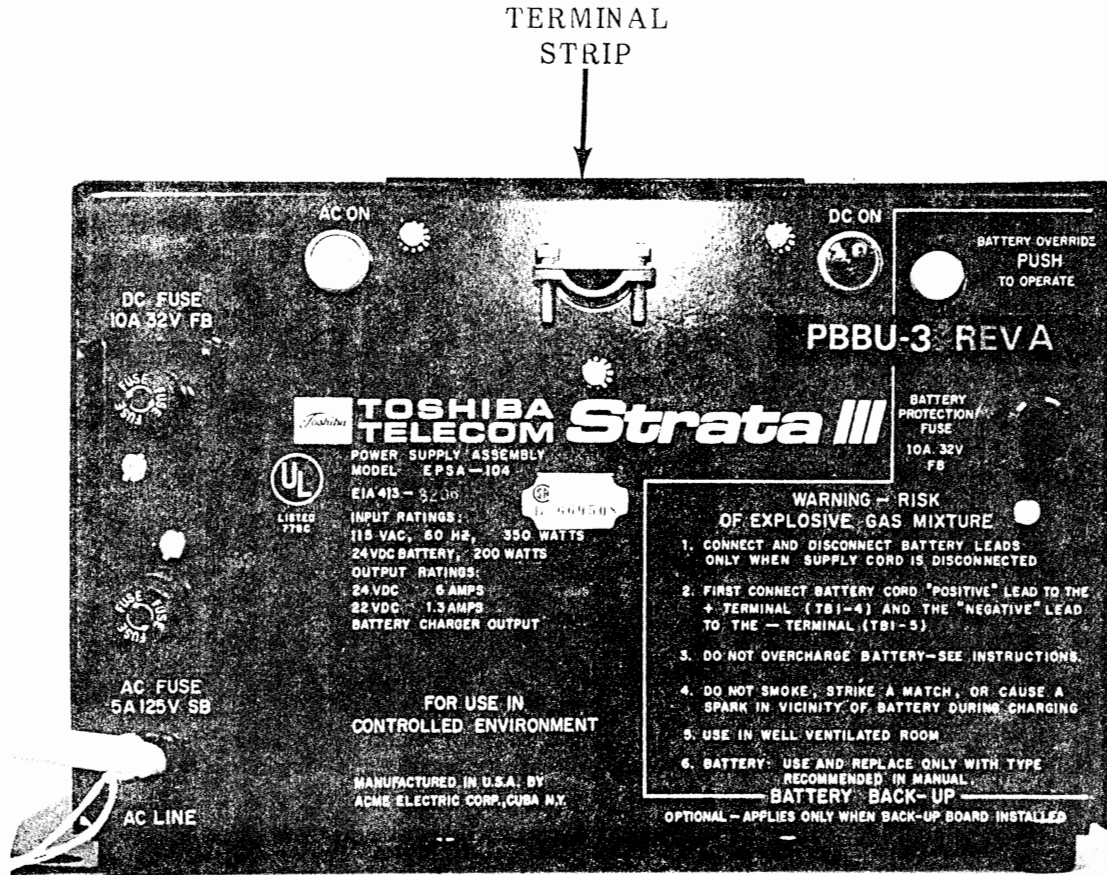

FIGURE 8
**02.32** A "PBBU-3 REV A" decal must be placed on the control panel of the EPSA. Remove the decal from the kit, peel the backing off, and place it on the control panel (Figure 8).